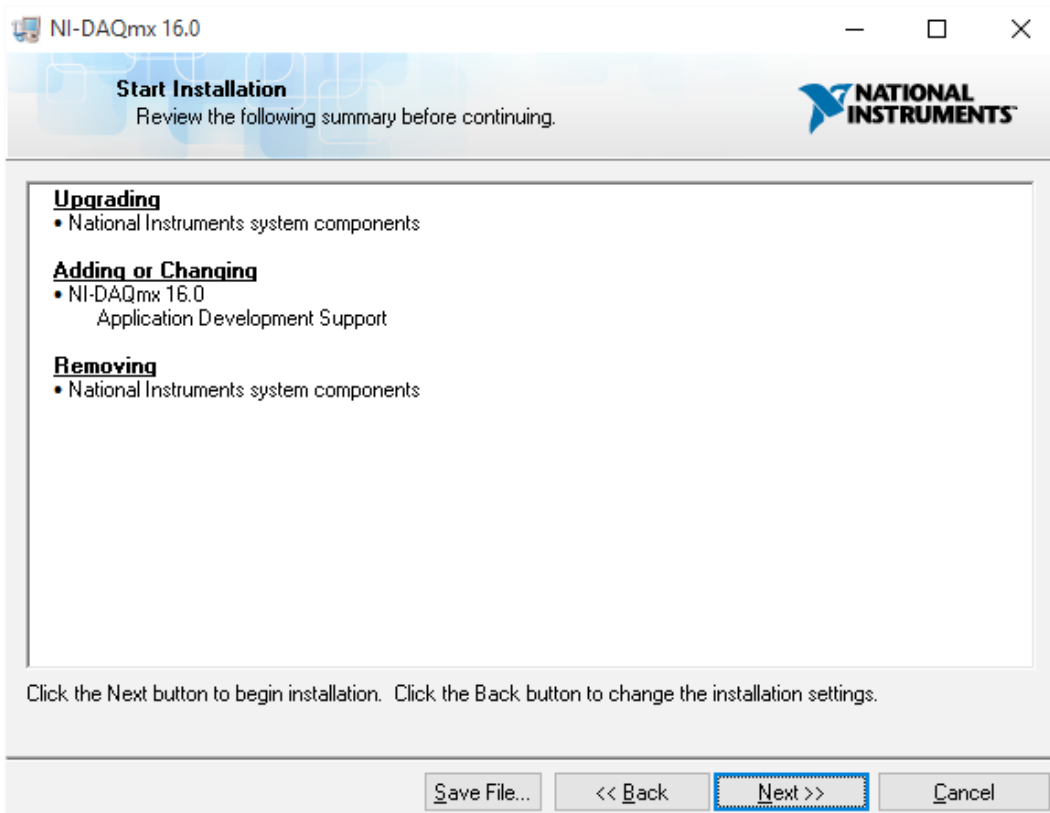

Figure 4. Installation Review Screen
- Review the Installation options, shown on the screen in **Figure 4**.
- If the installation review window does not indicate the options shown in **Figure 4**, click the BACK button to add the options. When the right options are selected for install, click the NEXT button.